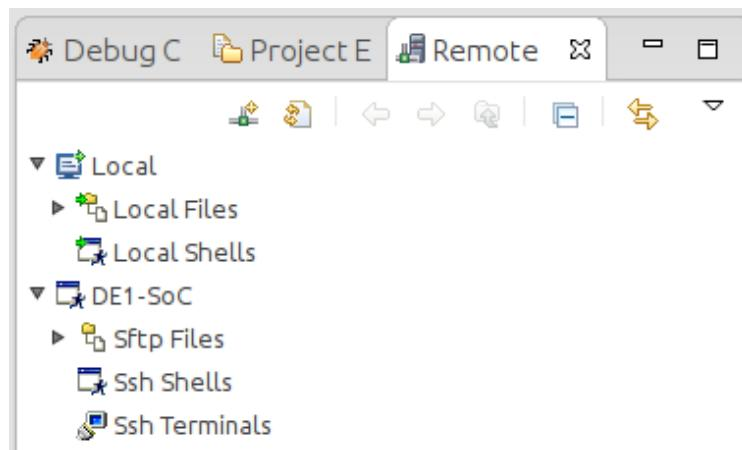

Figure 8-49. New SSH Connection In "Remote Systems" View
18. You should be able to see the remote system in ARM DS-5's "Remote Systems" view, as shown in Figure 8-49.